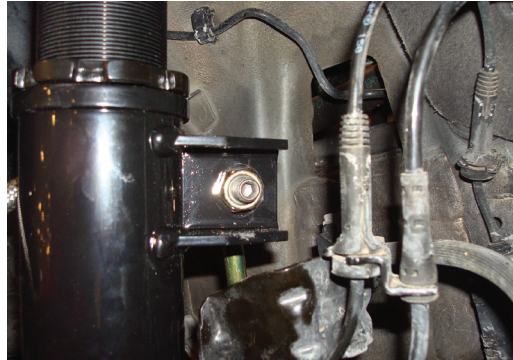

fig. D.24
6. Attach the supplied stabilizer end link to the strut and stabilizer bar. Torque nuts to 56Nm (41 lb.-ft.) (Figs. D.24 & D.25).